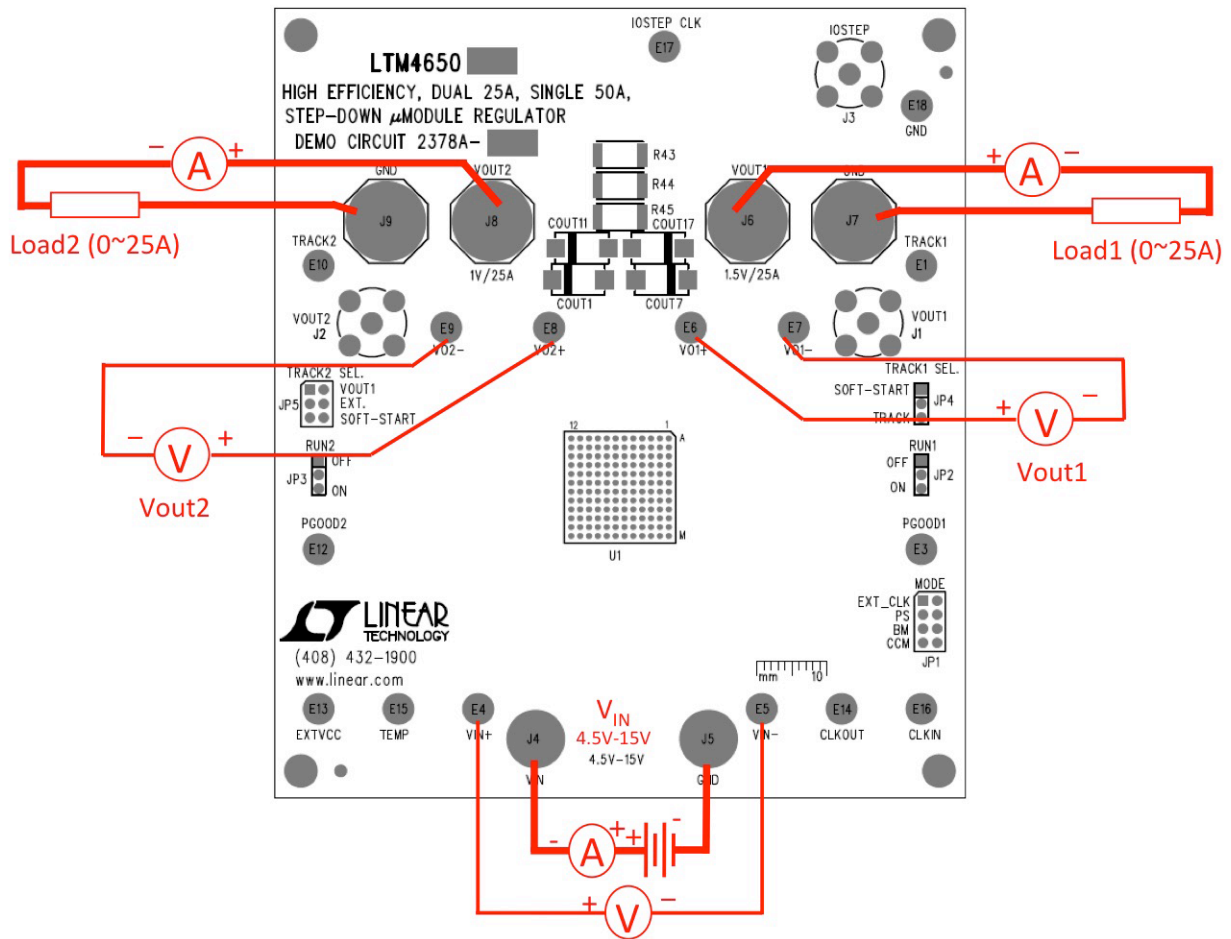

Figure 2. Test Setup of DC2378A-B
Demonstration circuit DC2378A-B is easy to set up to evaluate the performance of the LTM4650EY-1. Please refer to Figure 2 for proper measurement setup and follow the procedure below:
- With power off, connect the input power supply, load and meters as shown in Figure 2. Preset the load to 0A and V_{IN} supply to 12V.